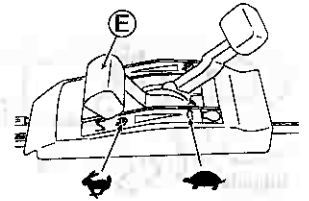

Fig. 13.
- Confirm that there is no person behind you when pulling Starter knob (V).
- Securely grab Starter knob (V) when you pull it.
- Return Starter knob (V) slowly.
- 5 Warm up the machine before use. After the engine has warmed up, start mowing by setting Throttle lever (E) to "V". (See Fig. 13.)